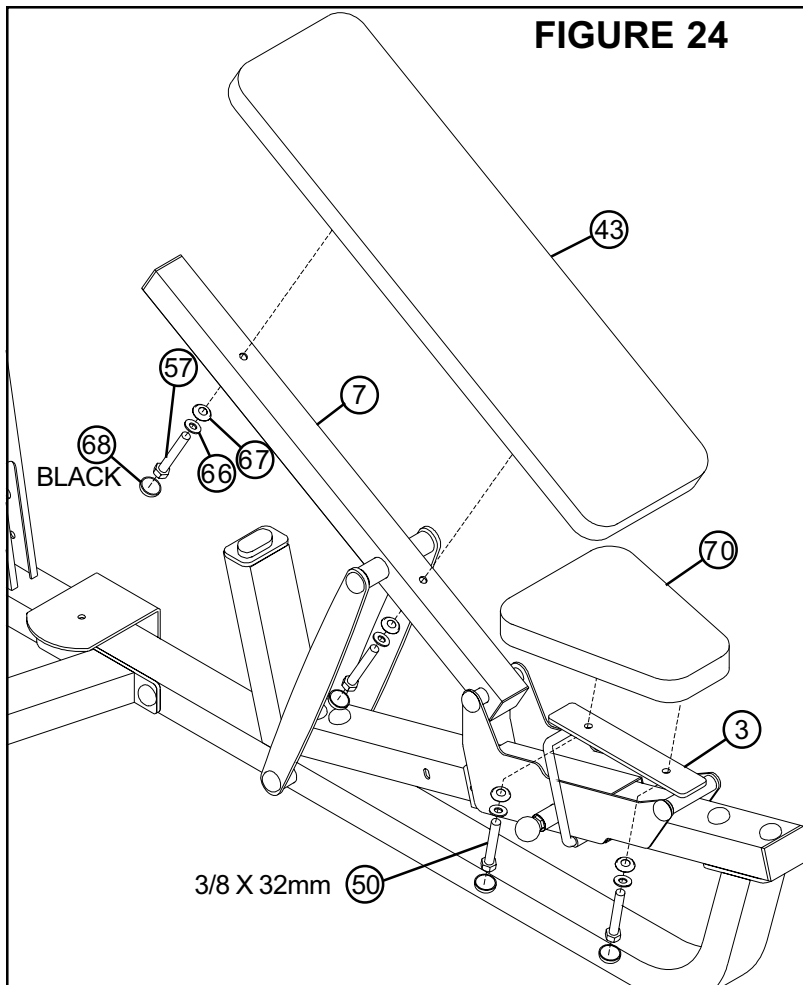

FIGURE 24
- **SECURELY** assemble the MULTI PRESS BACK PAD (43) to the BACK PAD SUPPORT (7) using two BLACK RH CAPS (68), two 3/8 X 73mm BOLTS (57), two 3/8" SAE WASHERS (66), two 3/8" RH WASHERS (67) as shown in FIGURE 24.
- **SECURELY** assemble the MULTI PRESS SEAT PAD (70) to the SEAT PAD SUPPORT (3) using two 3/8 X 32mm BOLTS (50), two 3/8" SAE WASHERS (66), two 3/8" RH WASHERS (67) as shown in FIGURE 24.